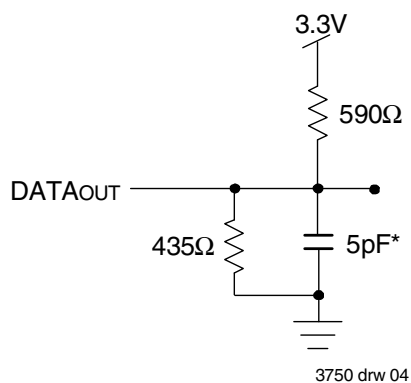

Figure 2. Output Test Load
1. Transition is measured 0mV from Low or High-impedance voltage with the Output Test Load (Figure 2). This parameter is guaranteed by device characterization, but is not production tested.
1. Transition is measured 0mV from Low or High-impedance voltage with the Output Test Load (Figure 2).